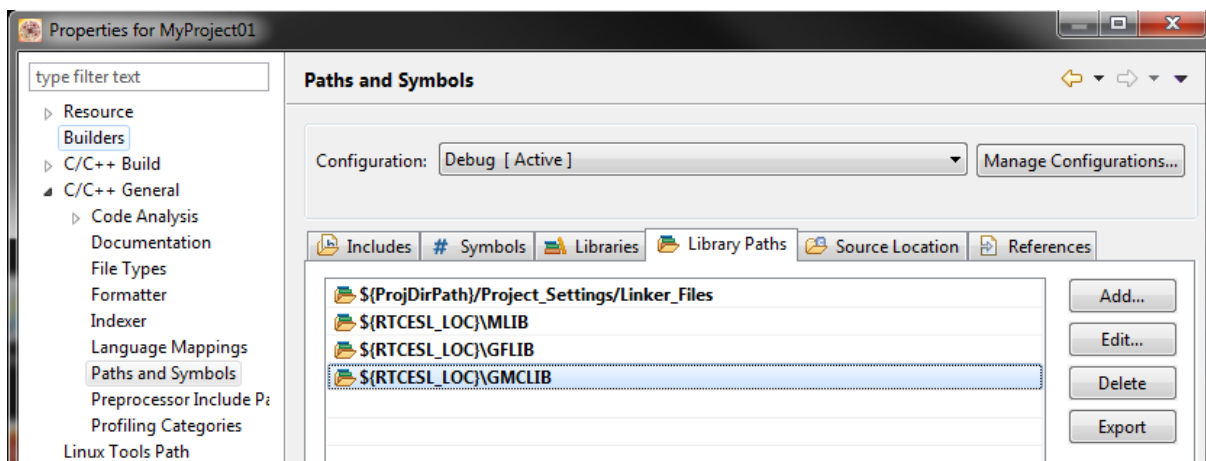

Figure 1-20. Library paths
3. In the right-hand dialog, select the Library Paths tab. See Figure 1-20.
10. Click OK, and the paths will be visible in the list. See Figure 1-20.